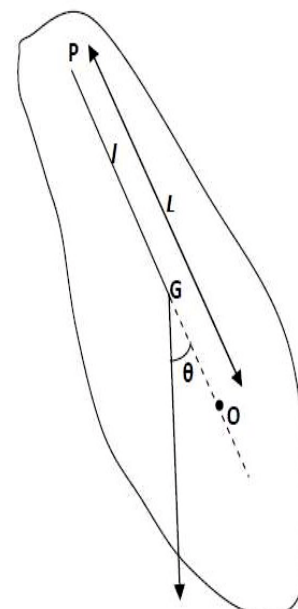

Fig. 1
In Fig.1 a body of irregular shape is pivoted about a horizontal frictionless axis through P and is displaced from its equilibrium position by an angle θ . In the equilibrium position the center of gravity G of the body is vertically below P. The distance GP is l and the mass of the body is m .
at point O (See Fig. 1) such that $OP = L = \frac{K^2}{l} + l$ we would have a simple pendulum with the same period. The point O is called the ”center of oscillation”. Now from Eq.(7). We have
pendulum. Thus, if the body was supported on a parallel axis through the point O (see Fig. 1), it would oscillate with the same time period T as when supported at P. Now it is evident that on either side of G, there are infinite numbers of such pair of points satisfying Eq. (9). If the body is supported by an axis through G, the time period of oscillation would be infinite. From any other axis in the body the time period is given by Eq. (5). From Eq.(6) and (9), the value of g and K are given by